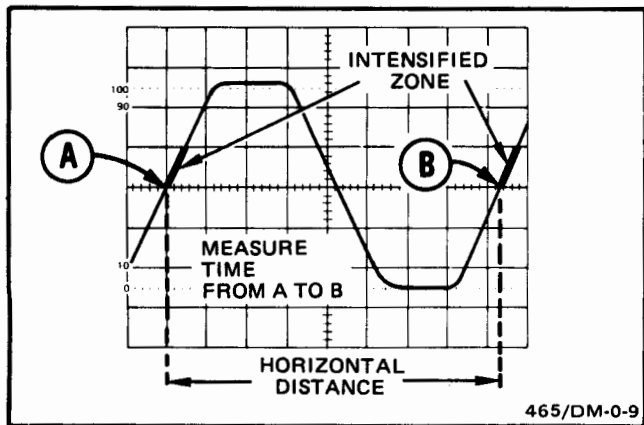

Figure 25. Time duration.
2. For the most accurate measurement, set the B TIME/DIV switch to the fastest sweep that provides a usable (visible) intensified zone. Vertically position the A Sweep display to place the time measurement points on the center horizontal graticule line (see Figure 25).
3. Use the DELAY TIME POSITION control to move the start of the intensified zone so that it just touches the intersection of the signal and the center horizontal graticule line (see Figure 25, Point A).
5. Use the DELAY TIME POSITION control to move the start of the intensified zone to the second time measurement point (see Figure 25, Point B).
EXAMPLE: The DELAY TIME POSITION dial setting at Point A is 1.20 and the DELAY TIME POSITION dial setting at Point B is 9.53 with A TIME/DIV switch set to 2 ms (see Figure 25).
**EXAMPLE:** The time duration of one event (Point A to Point B, Figure 25) is 16.66 milliseconds.